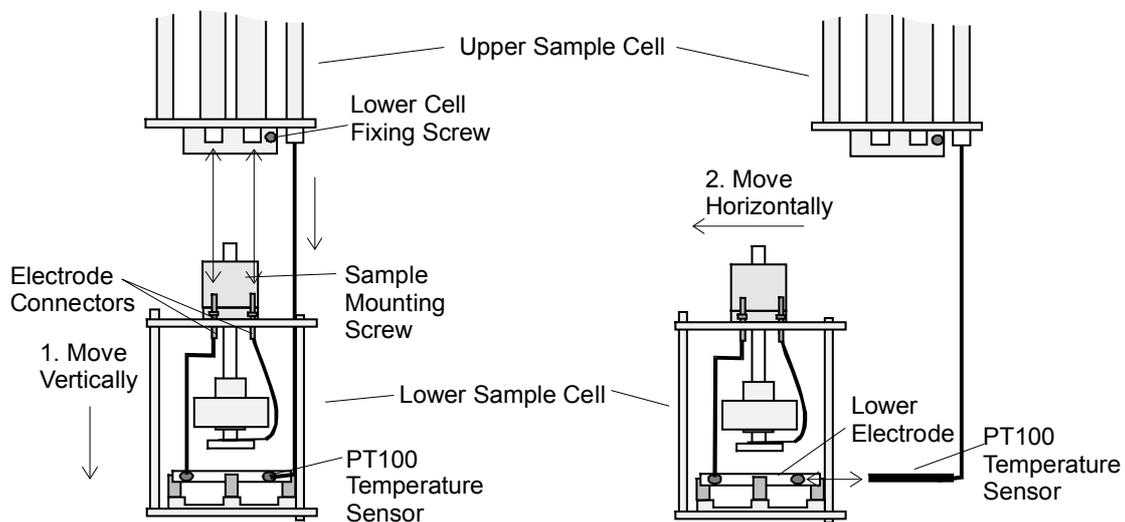

Fig. 5.4: Procedure of separating the lower sample cell from the upper cell.
- In a first step, slowly move the lower sample cell vertically to the upper sample cell as shown in fig. 5.4. While moving stepwise, pull the both **Electrode Connectors** out of the connection lines. The **PT100 Sensor** remains in the lower electrode at this time and shifts itself out of the upper sample cell. The PT100 can be shifted vertically by about 5 cm with respect to the upper sample cell, but can not be disconnected from the upper sample cell.